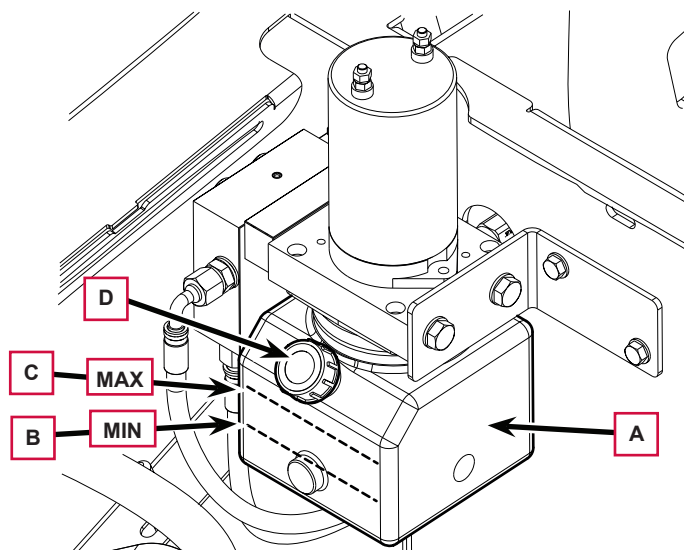

Figure 5
4. Check that the oil level in the hydraulic unit tank (A, Figure 5) is between the minimum (MIN) (B) and maximum (MAX) (C) marks shown.
5. If necessary, top up the oil after removing the plug (D); use the oil specified in Technical Data section.